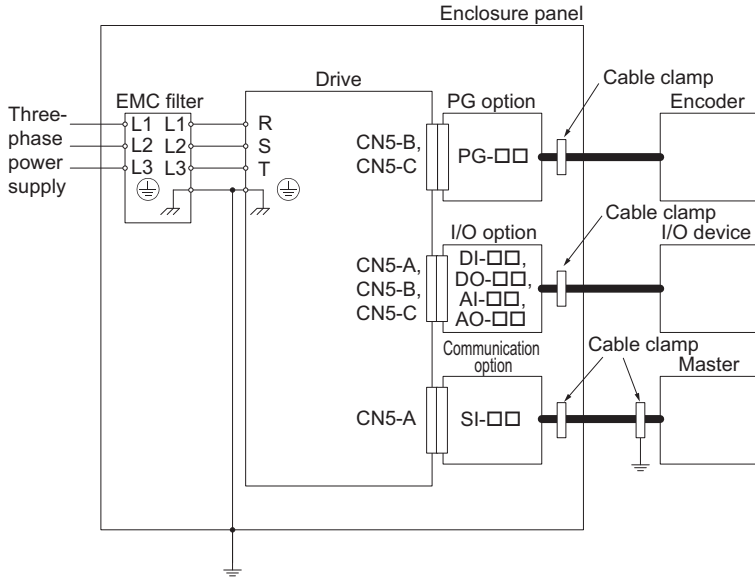

Figure 31 Option Installation for CE Compliance: 1000-Series, GA700, GA800, CR700, CH700
2. Keep wiring as short as possible and ground the largest possible surface area of the shield to the metal panel according to Figure 31 and Figure 32.